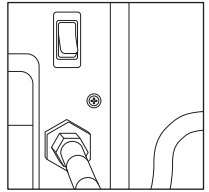

Fig. 3
- Connect the supplied air hose to the threaded air outlet on the back panel. (Fig. 3)